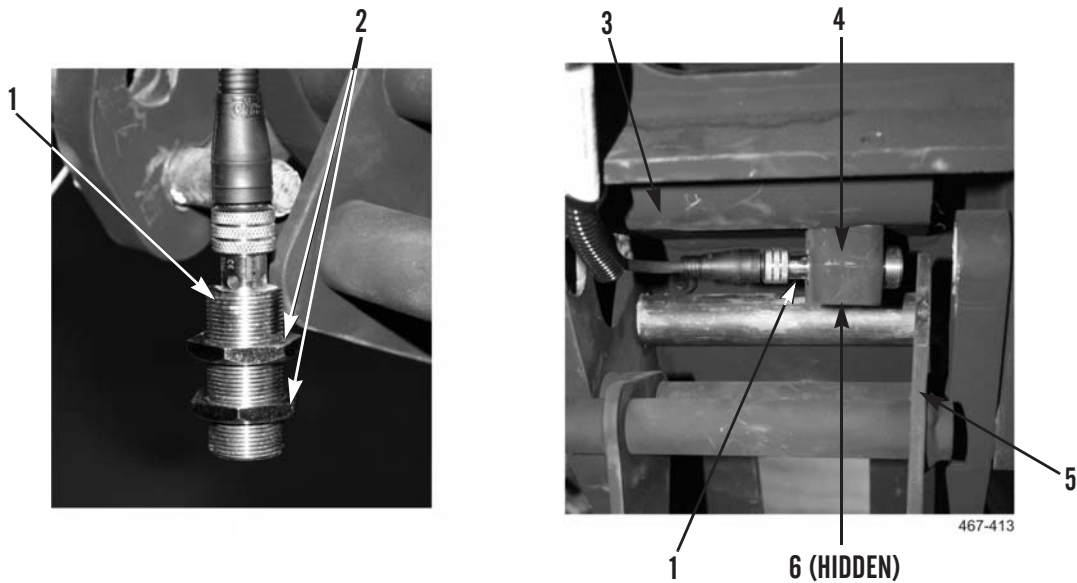

Figure 43. Adjust Twistlock Sensor.
5. Route LH twistlock sensor harness to left-side twistlock assembly (Figure 43, Item 3).
6. Remove two nuts (Figure 43, Item 2) from twistlock sensor (Figure 43, Item 1). Discard nuts.
7. Loosen two bolts (Figure 43, Item 6) in cable clamp (Figure 43, Item 4) and insert twistlock sensor (Figure 43, Item 1) into clamp.
8. Adjust twistlock sensor placement until end of sensor is .0625 to .1875 in. (2 to 3 mm) from twistlock plate (Figure 43, Item 5) and tighten two bolts (Figure 43, Item 6) in cable clamp (Figure 43, Item 4).